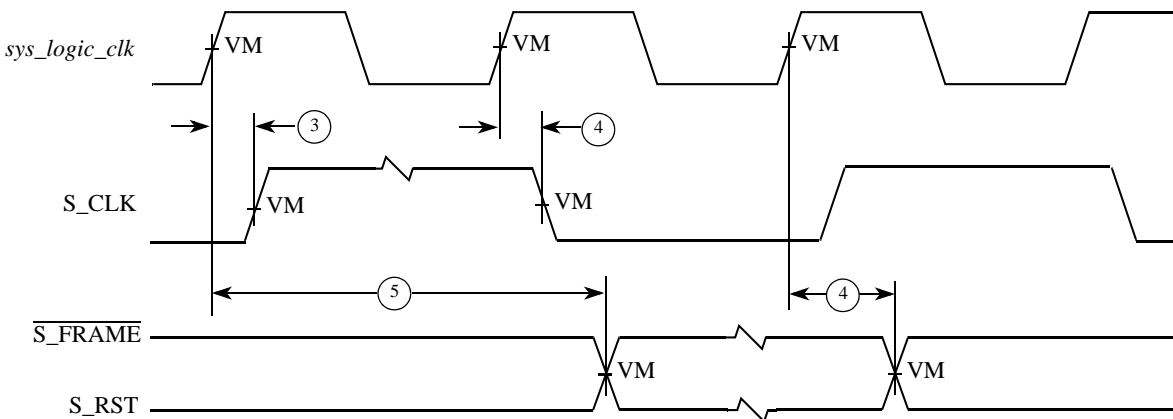
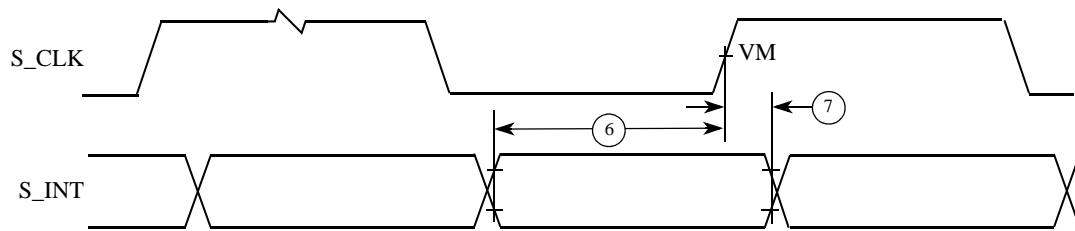

Figure 19. PIC Serial Interrupt Mode Output Timing Diagram
Figure 20. PIC Serial Interrupt Mode Input Timing Diagram
2. S_RST, $\overline{\text{S_FRAME}}$, and S_INT shown in Figure 19 and Figure 20 depict timing relationships to *sys_logic_clk* and S_CLK and do not describe functional relationships between S_RST, $\overline{\text{S_FRAME}}$, and S_INT. See the *Tsi107 User Manual* for a complete description of the functional relationships between these signals.
Figure 18 and Figure 19 show the PIC serial interrupt mode output and input timing diagrams, respectively.